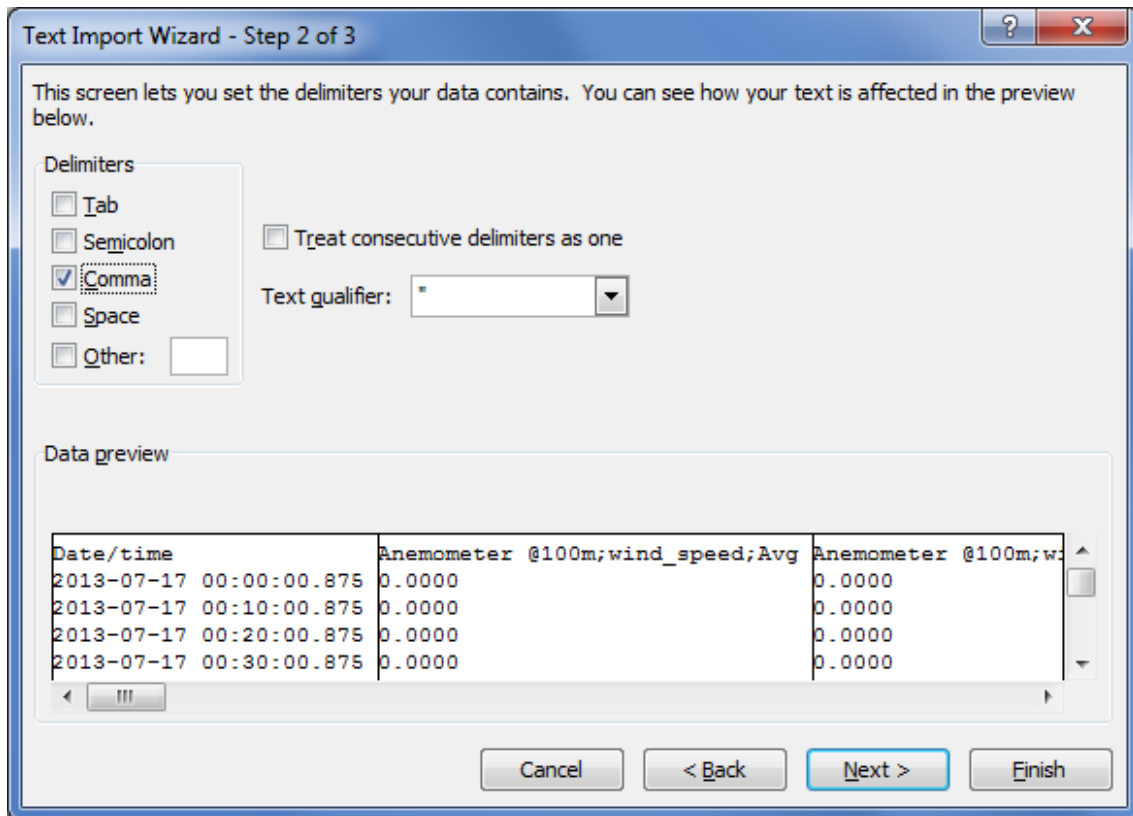

Figure 6.13: Microsoft Excel 2010™ CSV Import (4)
4. In next step define *Comma* as delimiter and *"* as text qualifier as shown in Figure 6.13.